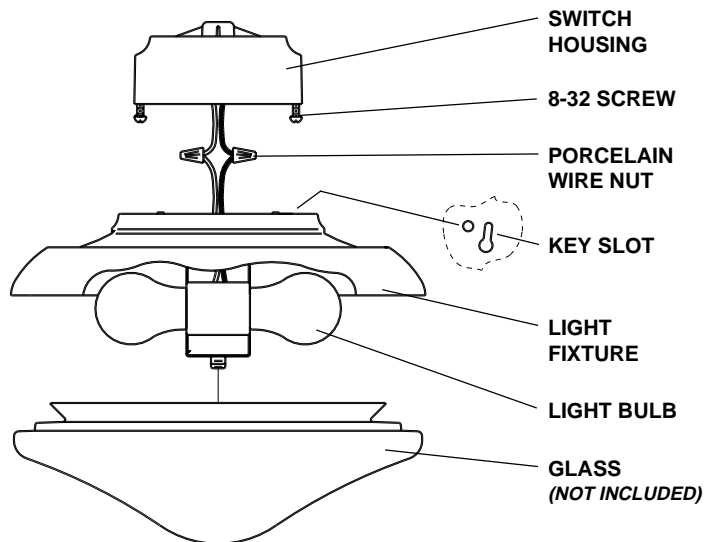

FIG. 4
5. Thread the two 8-32 screws half way into the two threaded holes on the switch housing. See FIG. 4